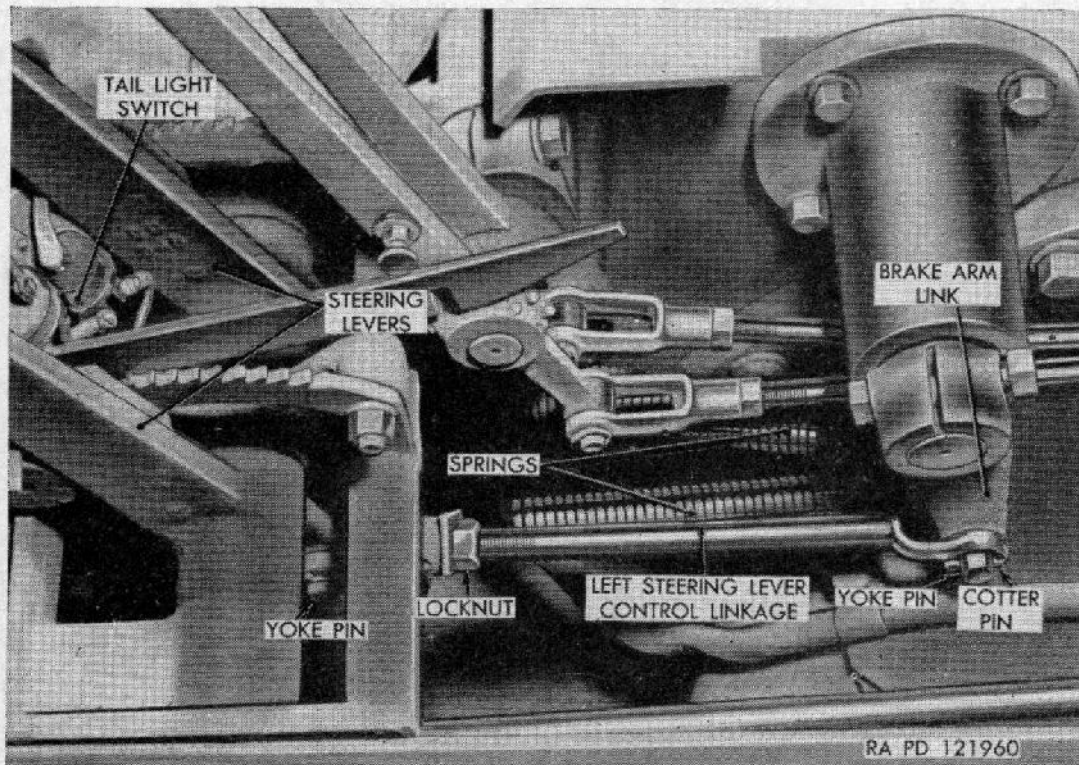

Figure 117. Steering lever control linkage adjustment.
a. Adjustment of Controls and Linkage. Remove seats from crew front compartment. Remove pin from yoke at the brake arm link (fig. 117). Loosen locking nut on steering lever control linkage (fig. 117). Turn control linkage in (clockwise) to shorten linkage or out (counterclockwise) to lengthen linkage. Connect steering linkage to brake arm link with yoke pin. Pull back on steering lever and, using a scale held against the instrument panel, free travel of steering levers should measure 8 inches before meeting resistance. Install cotter pin in yoke pin (fig. 117). Tighten lock nut (fig. 117). Install seats in crew front compartment.
b. Removal of Steering Lever Control Linkage. Remove seats from crew front compartment. Remove cotter pin and yoke pin from the brake arm link (fig. 117). Loosen lock nut (fig. 117) and remove cotter pin and yoke pin from bottom of steering lever (fig. 117).
c. Installation of Steering Lever Control Linkage. Install yoke pin and cotter pin at bottom of steering lever (fig. 117). Install yoke pin and cotter pin at brake arm link (fig. 117). Tighten the lock nut. Adjust the steering lever control linkage if necessary (*a* above).